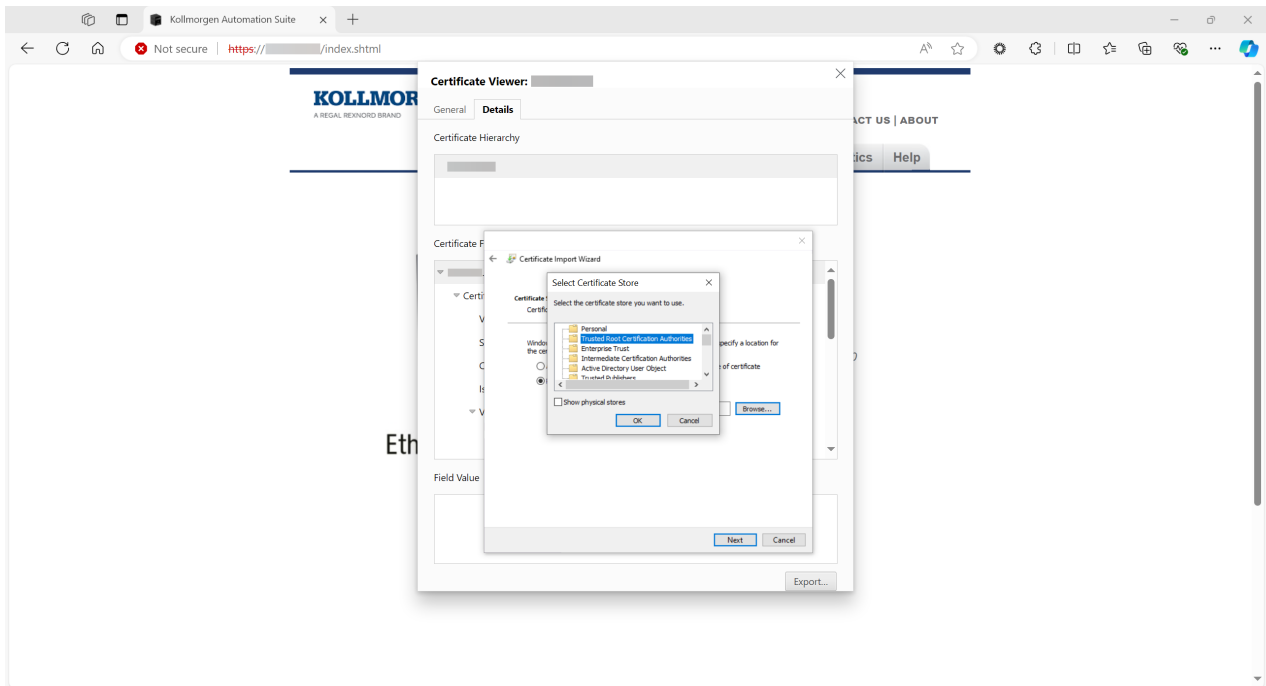

Figure 9-36: Selected Certificate Store dialog - Trusted Root Certification Authorities
26. Select the **Trusted Root Certification Authorities** certificate store. (Figure 9-36)